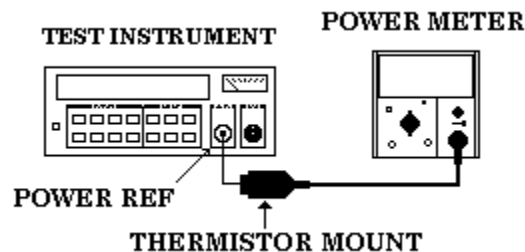

Figure 2. Power reference level test setup.
(3) Set power meter **LINE** switch to **OFF** position.
(4) Connect multimeter between center conductor of power meter rear panel **V_{RF}** connector and pin 1 of thermistor mount end of power meter interconnect cable.
(5) Round off multimeter indication to two decimal places and record value as R (approximately 200Ω).
(6) Disconnect multimeter from power meter interconnect cable.
(7) Connect equipment as shown in figure 2.